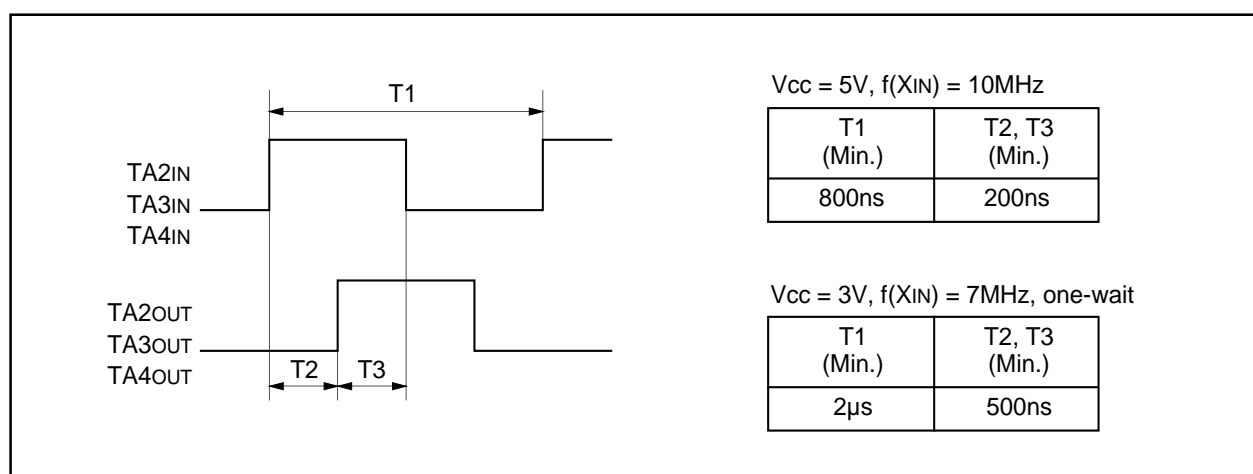

Figure 2.2.30. Standard of 2-phase pulses
- (3) Please note the standards for the differences between the 2 pulses used in the 2-phase pulse signals input signals to the TA0IN pin and TA0OUT pin as shown in Figure 2.2.30.
- (4) When free run type is selected, if count is stopped, set a value in the timer A0 register again.